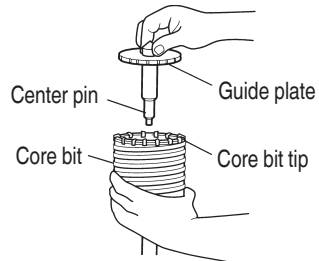

Fig. 19
- (3) Insert the center pin into the guide plate until it stops.
- (4) Engage the guide plate with the core bit, and turn the guide plate to left or right so that it does not fall even if it faces downward. (Fig. 19)